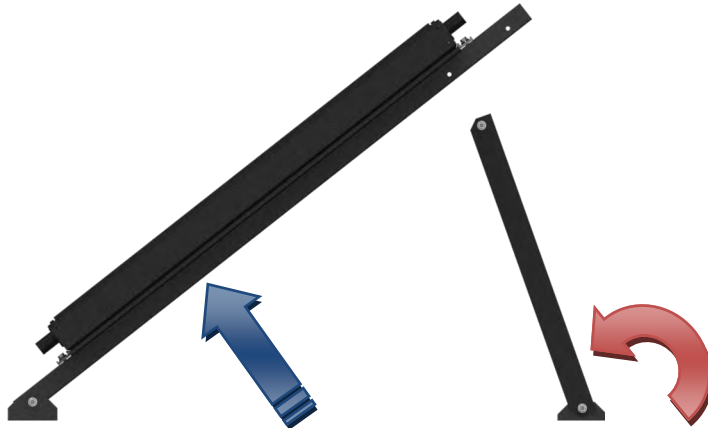

Figure 6
1. Tilt the Collector up and swing rear legs into position aligning the appropriate hole (first/ second) as selected from *Table 2, 4 or 6*. As shown in *Figure 6*.